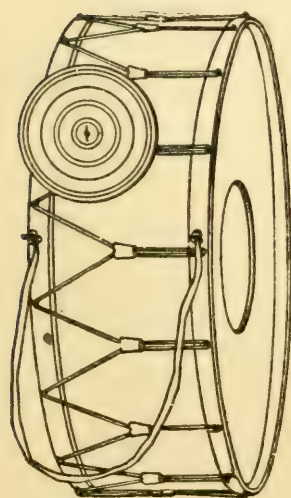
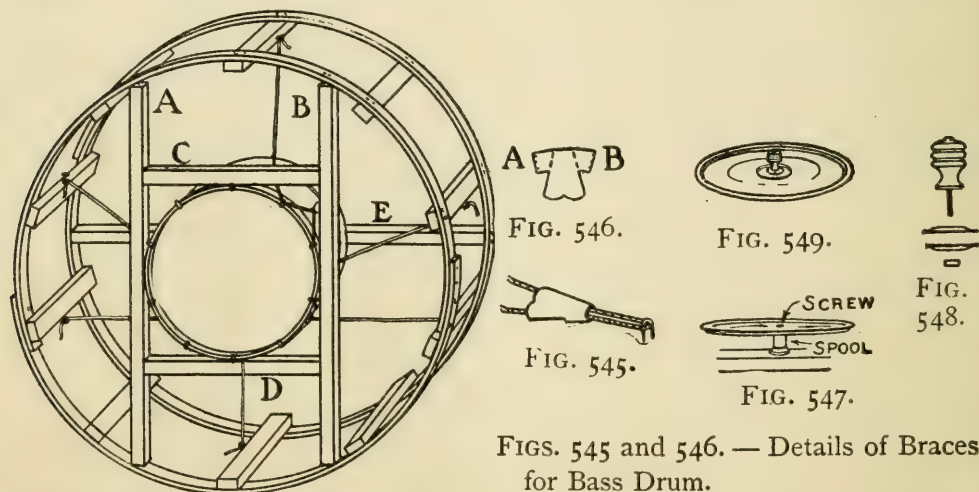

FIG. 542. — The Bass Drum.
FIG. 544. — Detail of Bass Drum.
Figure 542 shows
**The Bass Drum**, and Fig. 544 the detail of its framework. Procure eight barrel hoops for the framework; also a small drum. Soak four of the hoops in water, then bend them out and fasten them together so as to make two hoops 30 or 34 inches in diameter. Place the drum in the exact center of one hoop, and fasten strips *A*, *B*, *C*, and *D* around it (Fig. 544). Brace the other hoop with strip *E*, then connect the two hoops with 12-inch strips
placed horizontally as shown. Fasten the small drum in place with cords (Fig. 544). Cover the entire framework with wrapping-paper, then cut away the portion covering the head of the small drum (Fig. 542). Nail
and sew edge *A* to edge *B*. Get heavy wrapping cord for the brace cord, and lace it back and forth around the drum, as shown in Fig. 542. Screw a screw-eye into each rim from which to attach a rope or tape *sling* (Fig. 542).